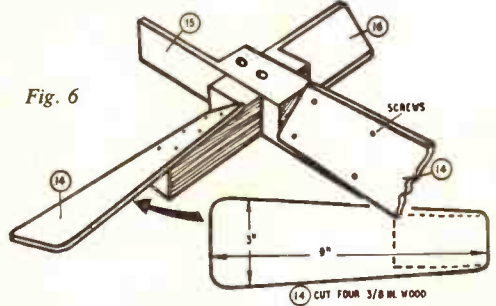

Fig. 6
To make the blades, cut out four pieces (14) to the approximate shape shown in Fig. 6. The material should be 3/8 in. thick. Fix securely to the sails by means of small screws.